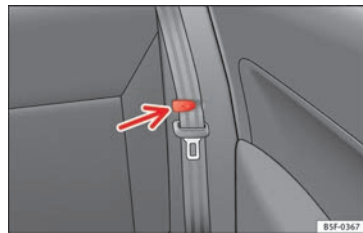

Fig. 153 Clip to support the seat belt.
- Place the side seat belts in the trim clip » **Fig. 153.**